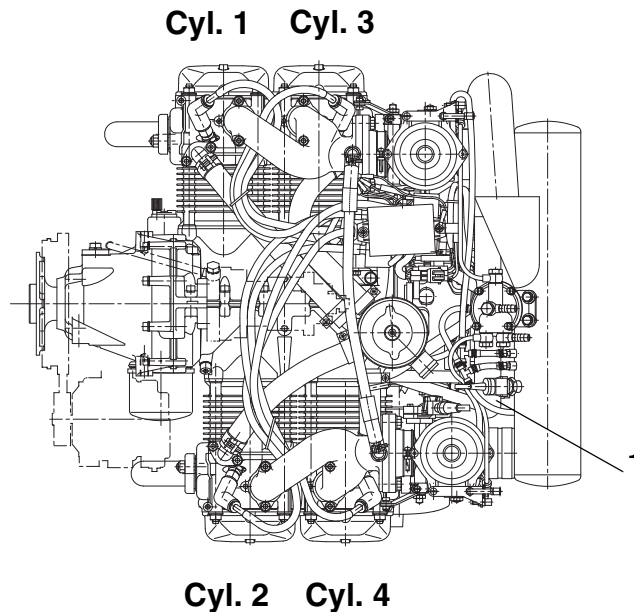

Fig. 1
When making inquiries or ordering parts, always indicate the engine serial number, as the manufacturer makes modifications to the engine for product improvement. The engine number (1) is on the ignition cover, on the left, opposite the electric starter. See Fig. 1.